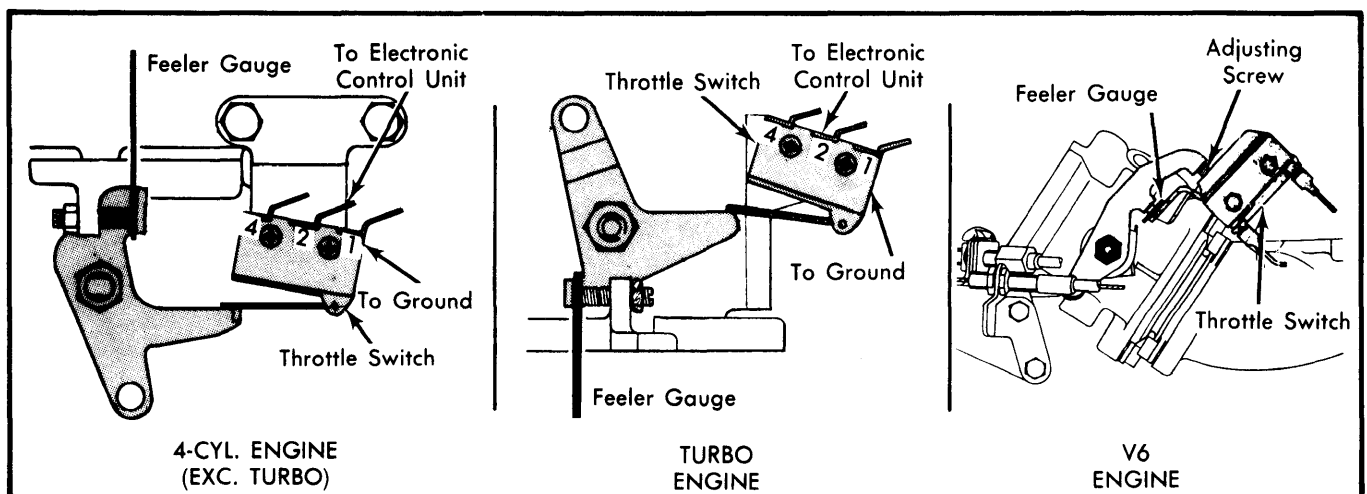

Fig. 2 Testing Throttle Switch Operation
2) With voltmeter still connected, ignition on and engine stopped, insert feeler gauge as shown in Fig. 2. Using feeler gauge listed in Throttle Switch Voltage Reading chart should produce voltages indicated in chart. If not, replace throttle switch and adjust as follows:
3) After replacing throttle switch, connect voltmeter and turn ignition on with engine stopped. On V6 engine, insert .012" (0.3 mm) feeler gauge as shown in Fig. 2. Loosen lock nut and turn adjusting screw on throttle lever until meter reading drops to 0 volts. Tighten lock nut.